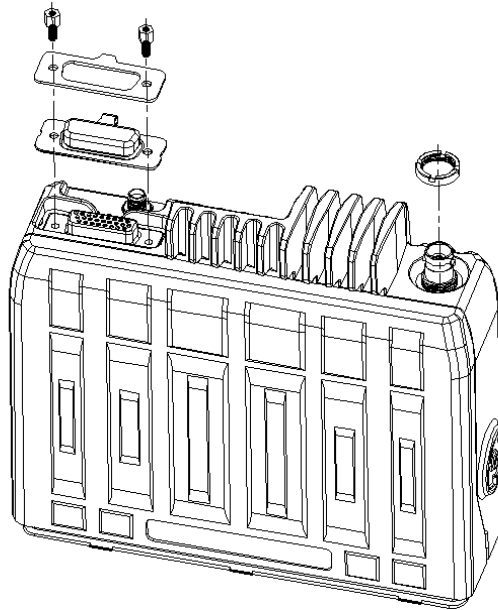

Figure 5.3
- (1) Unscrew antenna head nut, remove O-ring and DB26P as per figure 5.3;